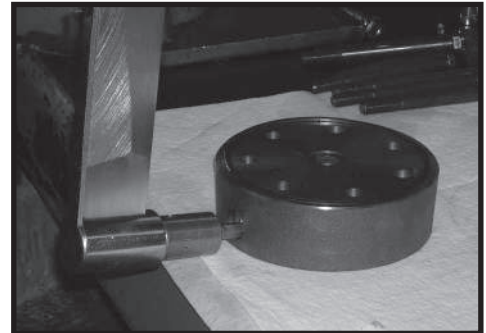

Figure 8
5. If the end cover (2) is equipped with shuttle valve or relief valve (24) components, remove the two previously loosened plugs (21) and o-rings (22). SEE FIGURE 8.
**NOTE: O-ring (22) is not included in seal kits but serviced separately if required.**
**NOTE: The insert and if included the orifice plug in the end cover (2) must not be removed as they are serviced as an integral part of the end cover.**